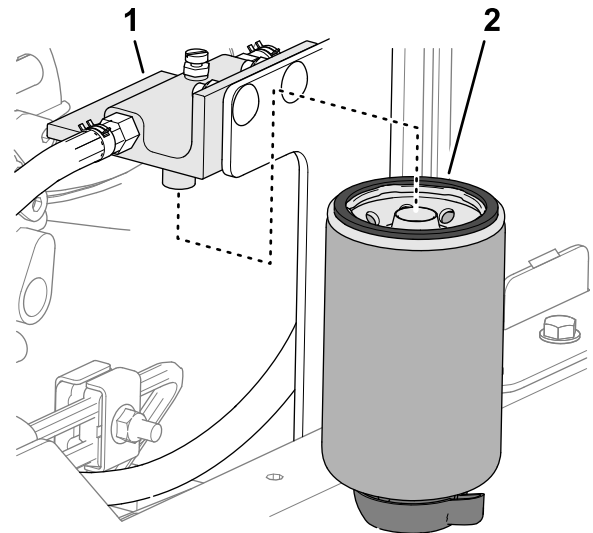

Figure 84
2. Clean the filter head and filter canister (Figure 84).